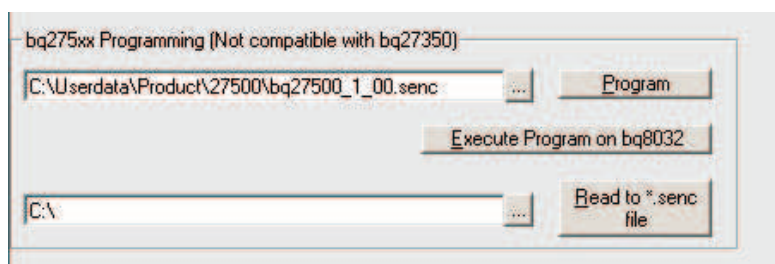

Figure 70. Programming the Firmware (Encrypted SREC)
6. In the *bq275xx Programming* section, enter the path and file name for the new firmware file (*.senc). If needed, click the (...) button to browse for the file location (see Figure 70).
7. Click the **Program** button to program the firmware (see Figure 70). All flash-constants information including calibration will be lost; so, export it beforehand into a (*.gg) file or *.DFI file
8. Once programming is finished, execute the program by clicking **Execute Program on bq8032** button (see Figure 70).